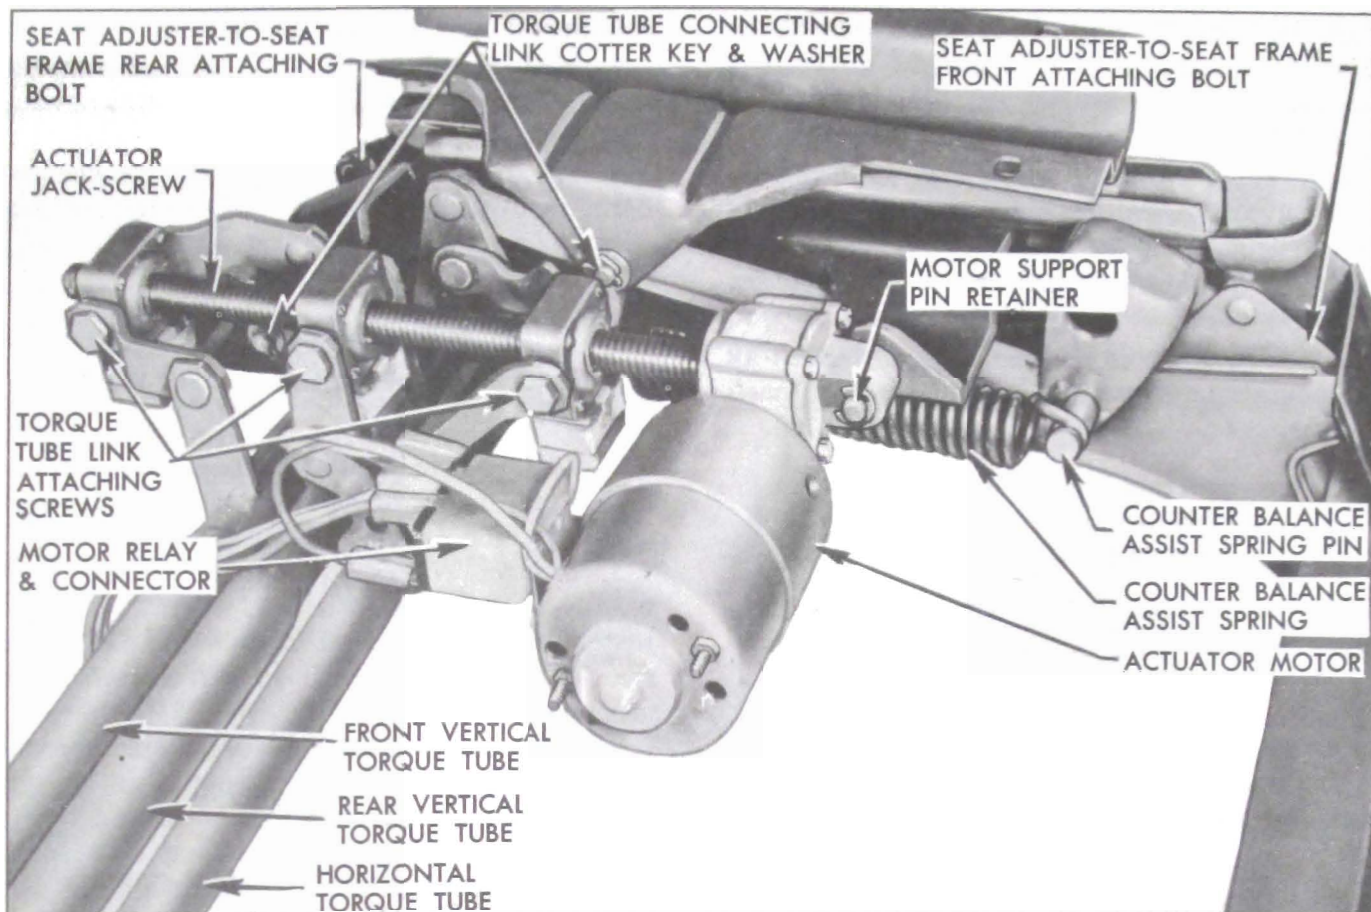

Figure 13-81—Front Seat Adjuster—Left
NOTE: *Before removing adjuster make certain seat is positioned so that torque tube link-to-spinning nut attaching screws, Fig. 13-81 are accessible for removal.*
5. Remove torque tube link attaching screws securing torque tube links to spinning nuts, Fig. 13-81.